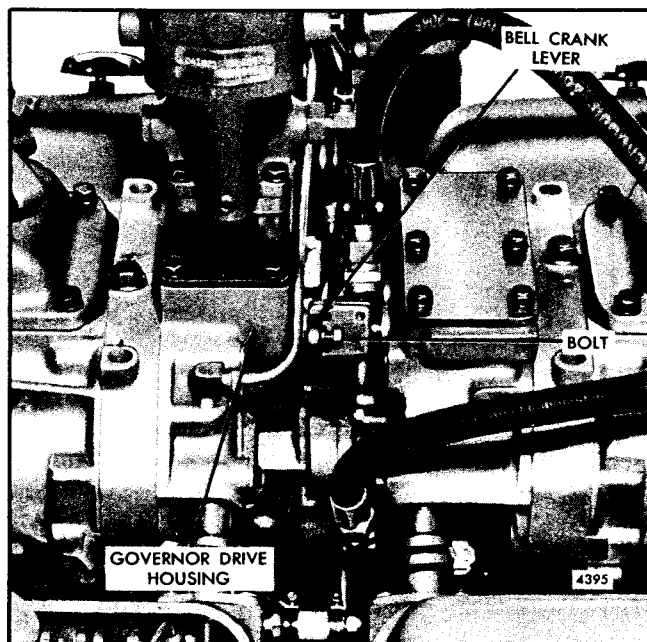

Fig. 3 - Bolt in Position through Bell Crank Lever
5. Place the bolt (removed from the lower end of the vertical link) through the bell crank and into the recessed hole in the governor drive housing (Fig. 3).